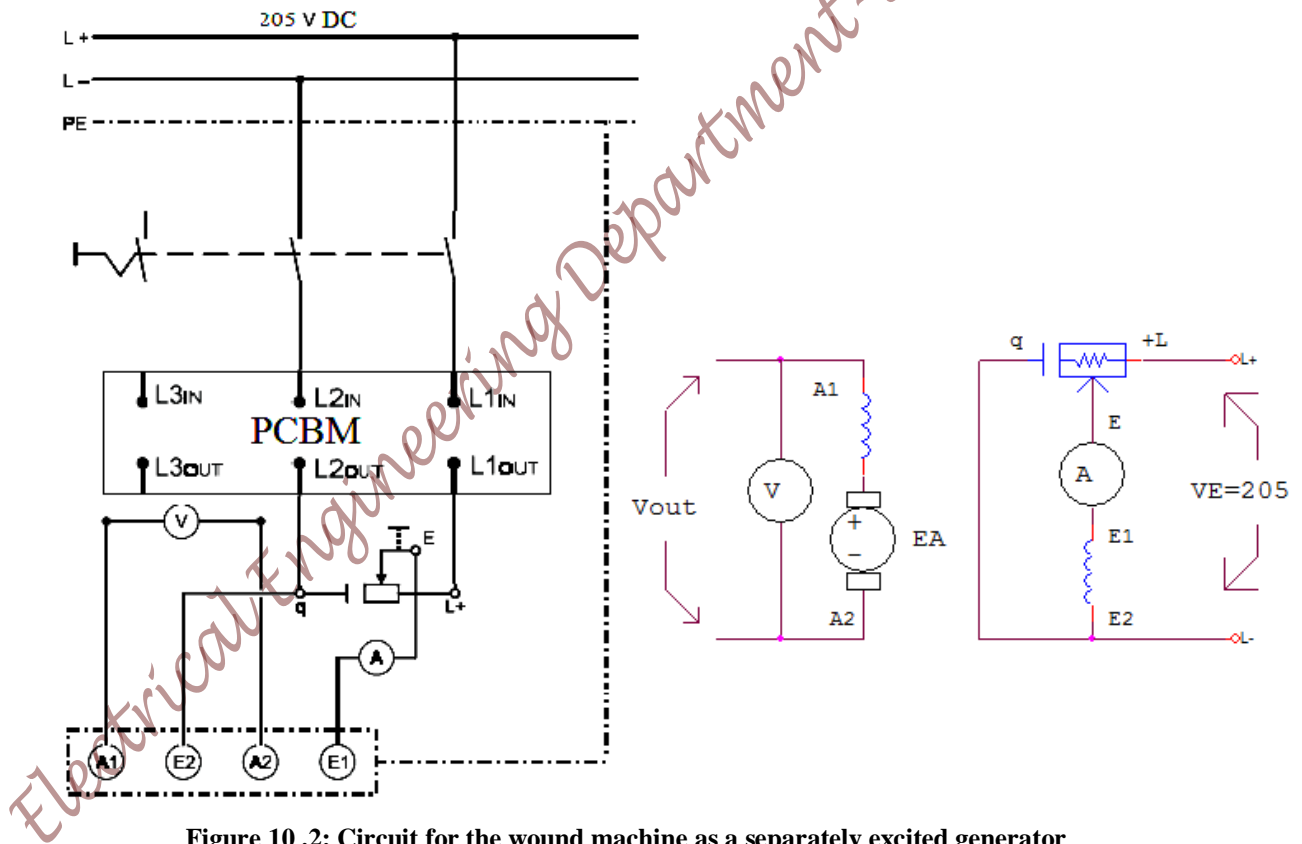

Figure 10.2: Circuit for the wound machine as a separately excited generator
1. Set up the circuit as shown in Figure 10.2